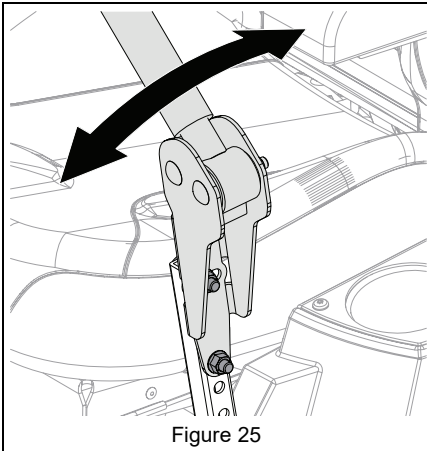

Figure 25
- Loosen mounting hardware, align levers and tighten hardware. See Figure 25.